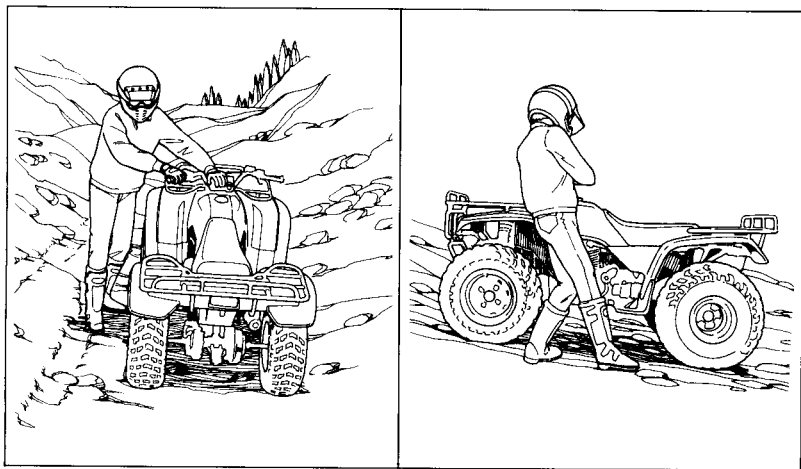

Fig. 3-11
1. Stand with your body facing downhill, beside the vehicle so you can reach the rear brake lever with your right hand (See Figure 3-11).